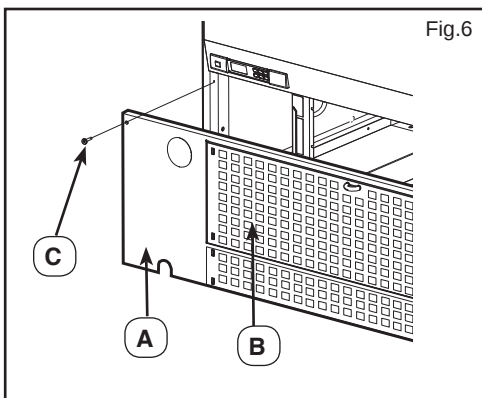

Fig.6
- Remove the rear grid panel (Fig.6 pos.A), the door and the condenser filter (Fig.6 pos.B) by unscrewing the 2 screws (Fig.6 pos.C) in the top corners.